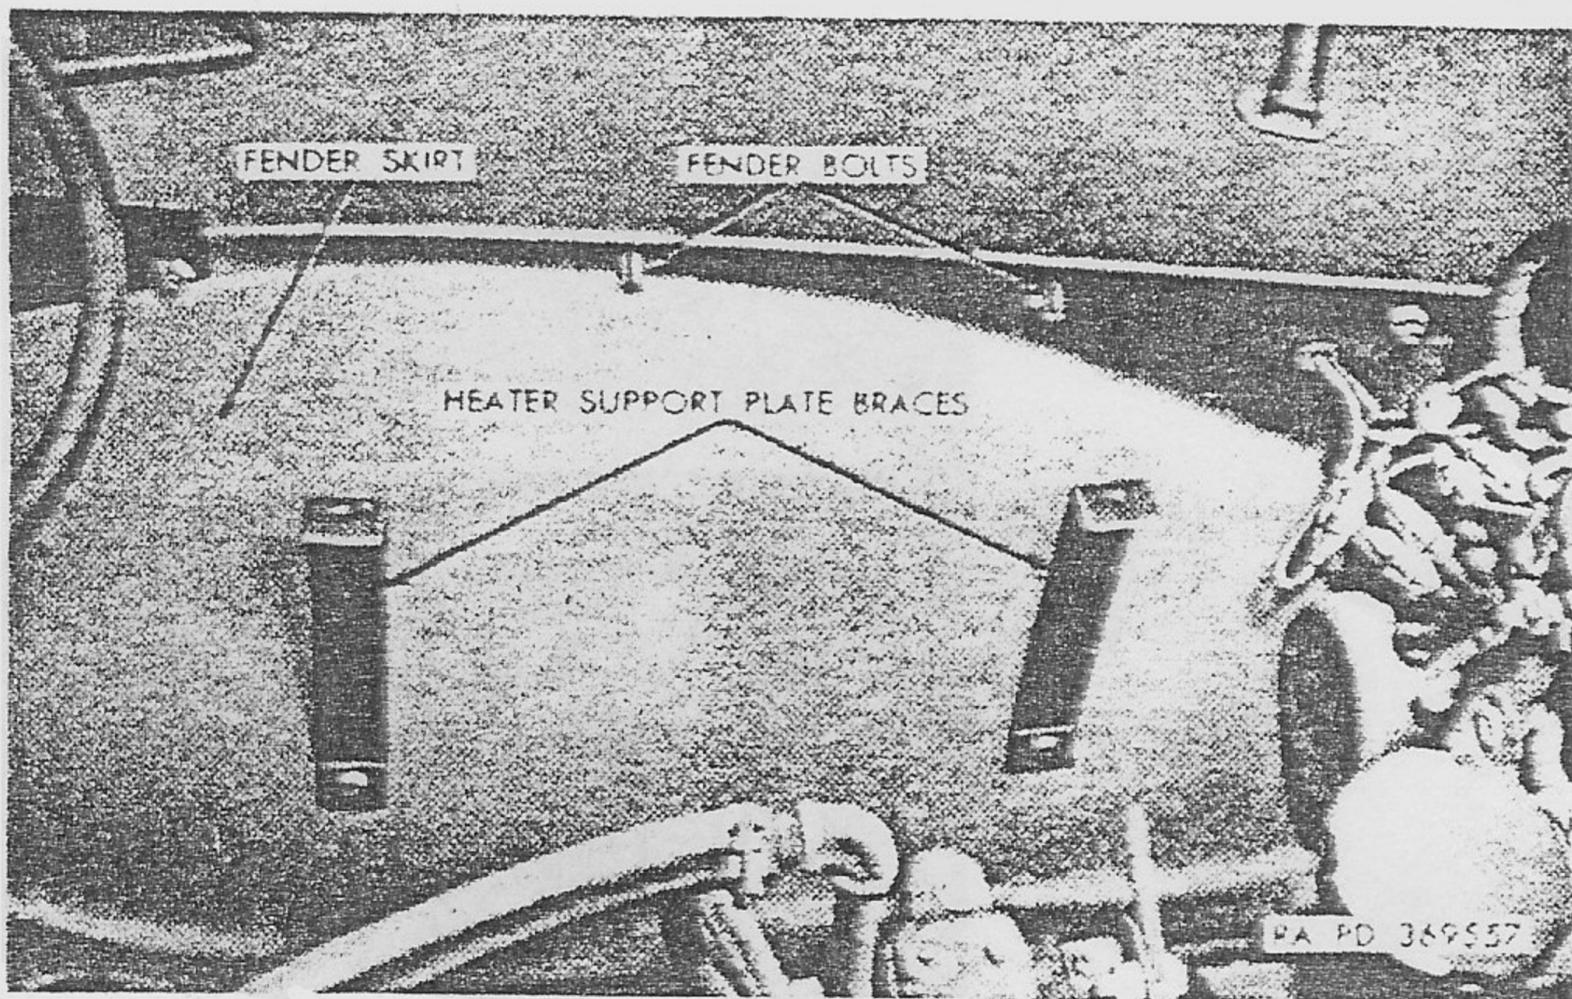
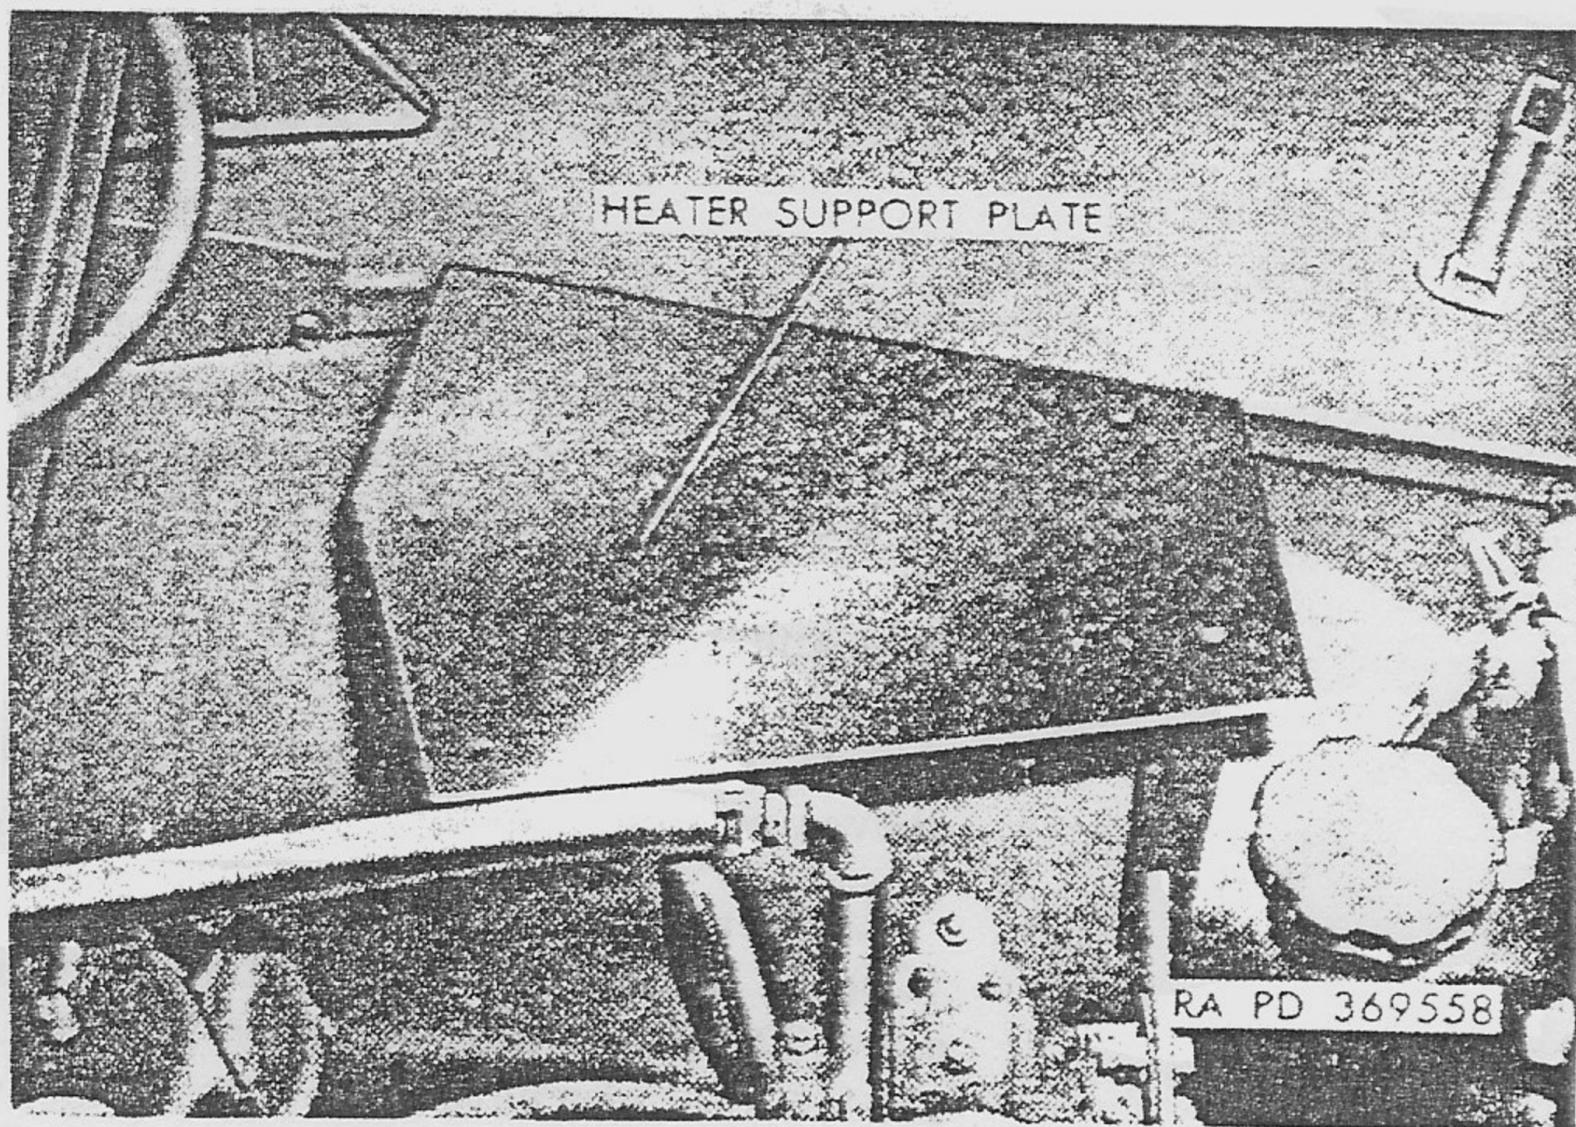

Figure 3. Heater support plate braces installed.
Figure 4. Heater support plate installed.
d. To install heater support plate braces (TT, fig. 1), remove nuts and washers from fender bolts (fig. 3). Position heater support plate (J, fig. 1) on the fender bolts with the plate level as shown in figure 4. Secure with nuts and washers. Temporarily secure the two heater support braces (TT, fig. 1) to underside of the support plate at the left and right front holes. Position
braces so that sloping arms of braces are in full contact with surface of fender skirt. Scribe, detach braces, and drill two $\frac{1}{4}$ -inch holes in fender skirt. Secure brace to fender skirt with two $\frac{1}{4}$ -20 x $\frac{5}{8}$ cap screws 120854, internal-external teeth lockwashers 174916, and hex nuts 120375, as shown in figure 3. Install air